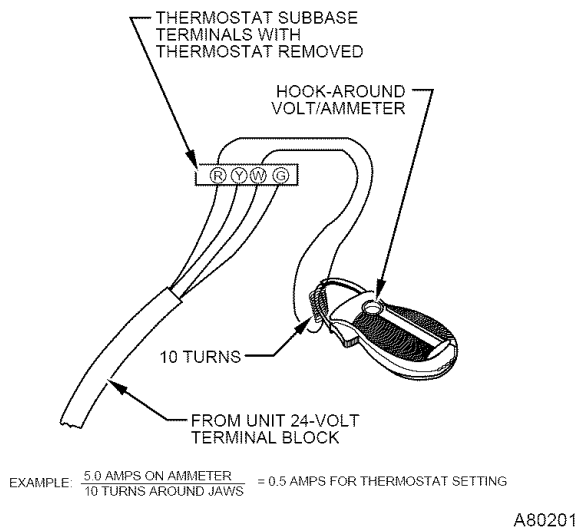

Fig. 60—Amp Draw Check with Ammeter
- When using a nonelectronic thermostat, the thermostat heat anticipator must be set to match the amp draw of the electrical components in R-W circuit. Accurate amp draw readings can be obtained at thermostat subbase terminals R and W. Fig. 60 illustrates the easy method of obtaining actual amp draw. The amp
reading should be taken after blower motor has started and furnace is heating. Connect ammeter wires as shown in Fig. 60. The thermostat anticipator should NOT be in the circuit while measuring current. If thermostat has no subbase, the thermostat must be disconnected from R and W wires during current measurement. See thermostat manufacturer's instructions for adjusting heat anticipator and for varying heating cycle length.